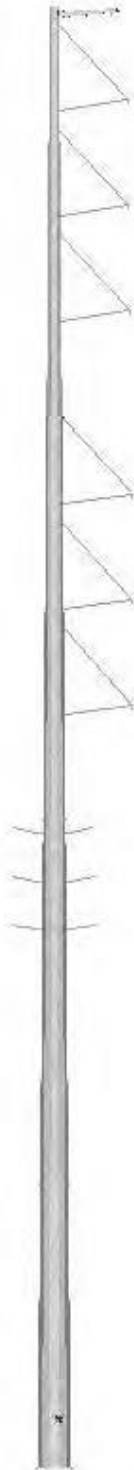

FIGURE G-19
- Figure G-19: Double-Circuit 230 kV Tubular Steel Structure (Pole) with 69 kV Underbuild, Vertical Stacked Configuration, Strain Structure